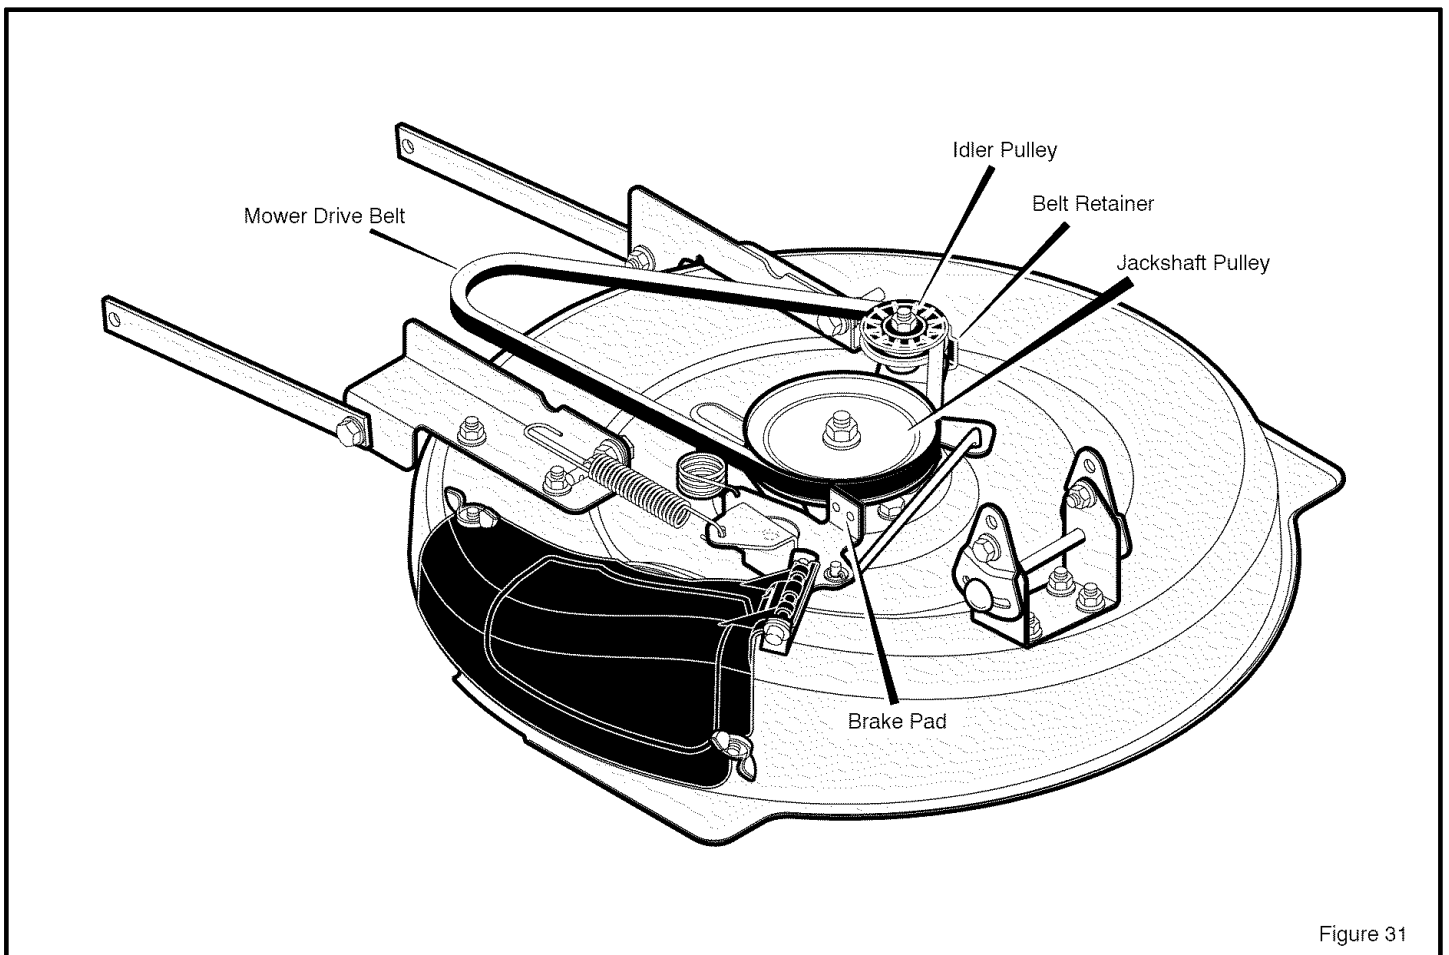

Figure 31
2. Pull the **belt retainer** away from the **idler pulley** and remove the **mower drive belt** (Figure 31).